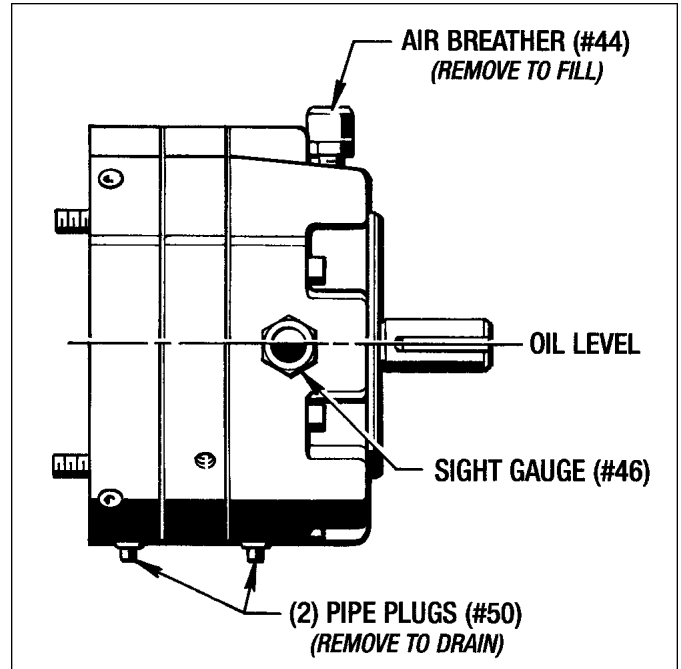

Figure 4.1 - Horizontal Brake Lubrication
1. Horizontal Brake *Figure 4.1*
(See Figure 4.1)
1. Remove the (2) Sq. Hd. Pipe Plugs (#50) and drain all the oil from the brake. Save or discard as condition warrants. Replace the drain plugs.
2. Remove the Air Breather (#44) from the top of the End Housing (#9) and fill the brake with fresh oil to the center of the Sight Gauge (#46) as shown in Figure 4.1. **Fluid capacity is approx. 1 Pint.**